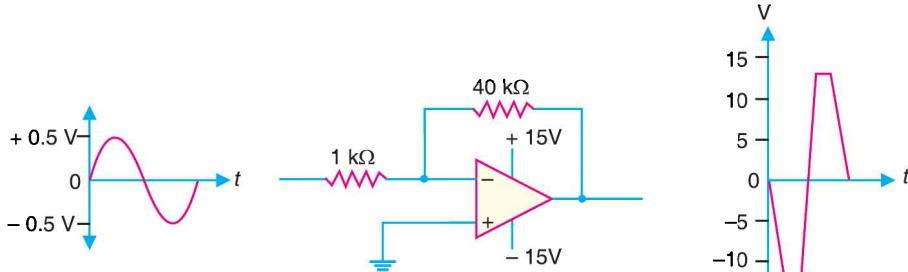

Fig. 25.52
**Example 25.28.** Find the output voltage for the circuit shown in Fig. 25.52.